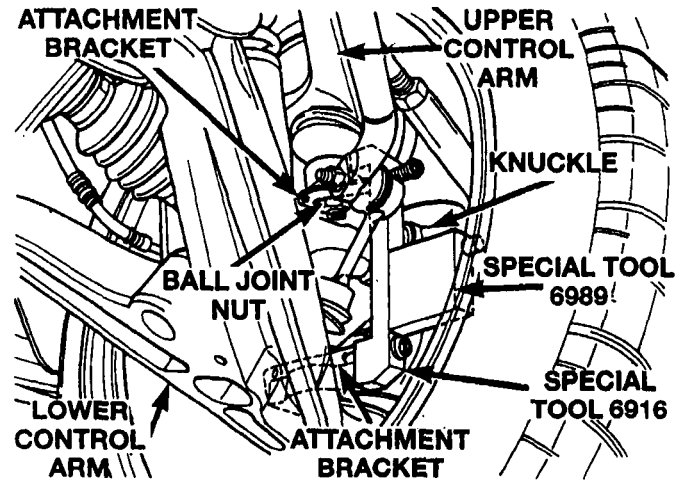

Figure 57 – Right Side Shown
- Once the inclinometers are attached to the rear Caster Angle Fixtures, they can be mounted on the rear knuckle caster angle pads as shown in Figures 57.